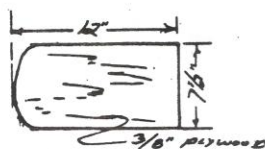

FIGURE 18
15. Cut a piece of 3/8" plywood as shown in Figure 18. Cut a piece of 2" or 3" foam the same size as the plywood. Cover with water resistant fabric, using tacks to fasten the fabric to the plywood. Drill two holes in the seat plate on the frame, and using wood screws, screw the seat to the frame. You are now ready to ride your Mini Bike. Drive carefully.
10. WELD THE FRONT SPINDLES AS SHOWN IN FIGURES 17 AND 18 BELOW. NOTE IN FIGURE 18 THE 10 DEGREES OF CAMBER. MAKE A RIGHT AND A LEFT SPINDLE.